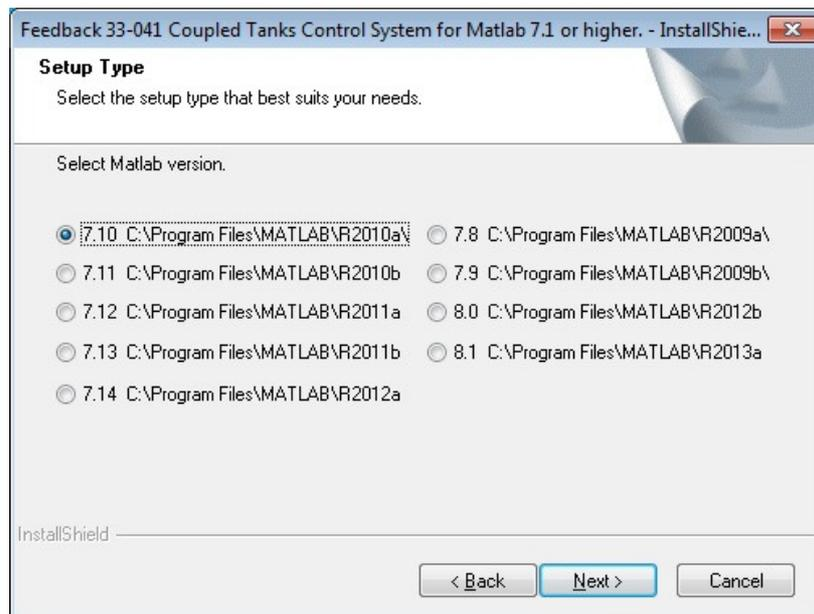

Figure 20 Matlab version choice window
5. The Matlab version choice window will appear (Figure 20).